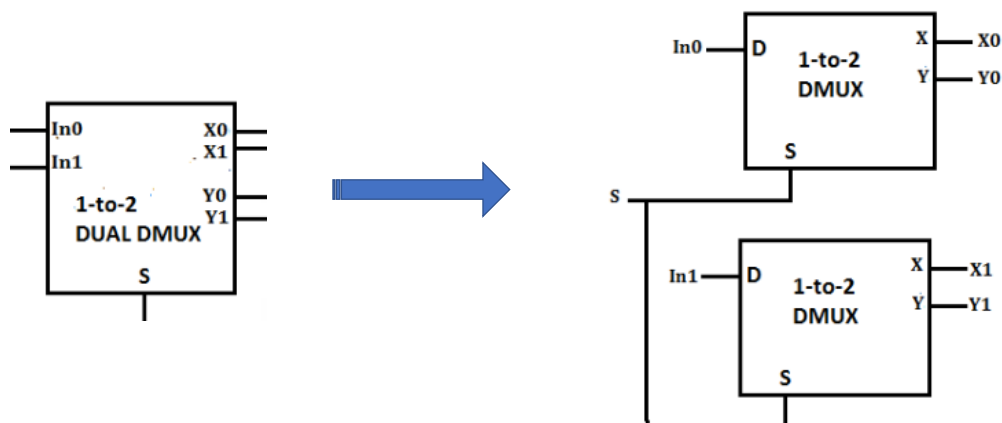

Figure 5: 1-to-2 Dual DMUX
- d) Implement the 1-to-2 Dual DMUX using **structural** Verilog code in a module named "dualdmux" inside the "dualdmux.v" file by instantiating two instances of module "dmux1" connected as shown in Figure 5. This module has three inputs (In1, In0, and S) and four outputs (Y1, Y0, X1, and X0).